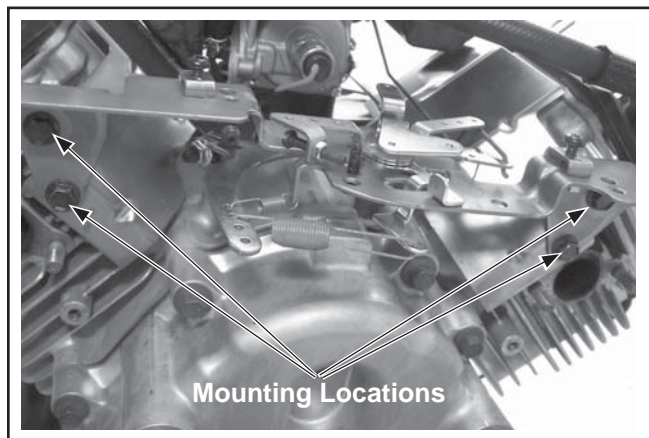

Figure 8-11. Control Bracket Mounting Locations.
1. Remove the four hex flange screws securing the throttle control bracket to the cylinder heads. See Figure 8-11.